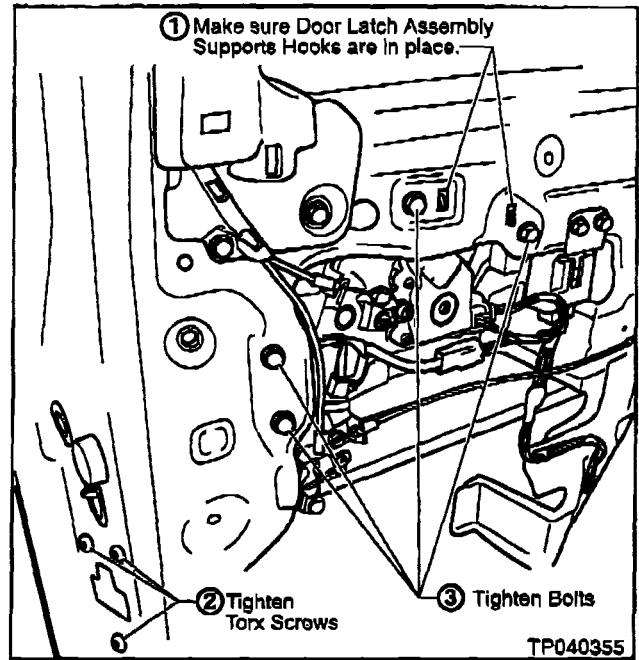

Figure 18
- Apply medium-strength Thread Locking Fluid (Blue) P/N 999MP-AM005P (or equivalent) to the three Torx Screws (see Figure 18).
1. First, make sure the Door Latch Assembly Support Hooks are properly inserted in the door sheet metal (see Figure 18).
2. Then, tighten the three Torx Screws that hold the Latch Assembly to the front end of the Sliding Door to **5.1 – 6.5 N-m (45 – 57 in-lb)**. See Figure 18.
3. Finally, tighten the four remaining Bolts to **5.1 – 6.5 N-m (45 – 57 in-lb)**. See Figure 18.